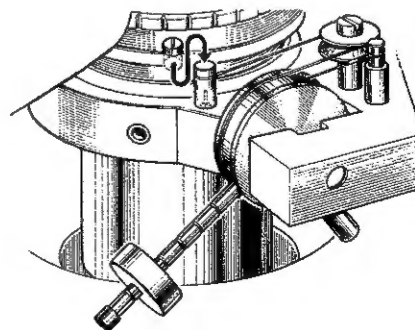

Fig. 20
3. When the anti-skating mechanism is not in use (when readjusting the stylus pressure, etc.), place the mini cap on the lifter base pin as shown in Fig. 20.